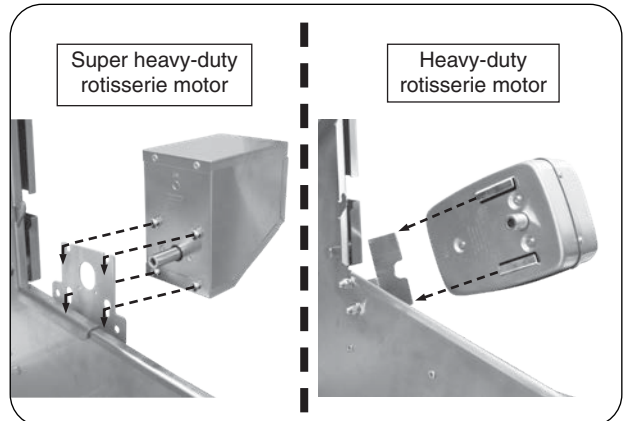

Fig. 30-2 Install rotisserie motor
2. Slide the rotisserie motor fully onto the motor bracket located on the right side of the grill (see Fig. 30-2) and connect it to a power source (do not turn on).